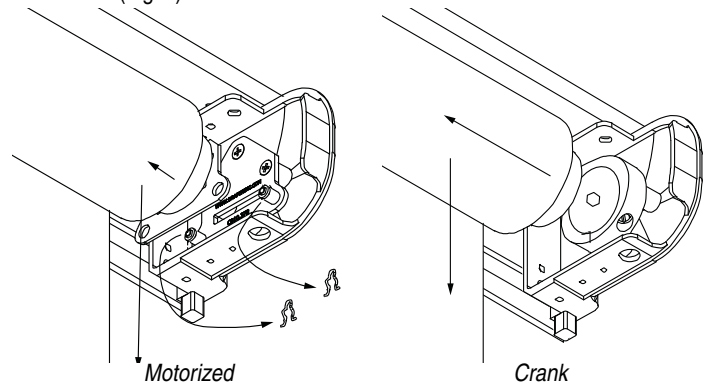

Figure 4
- ② Remove roller/fabric assembly from headbox. Pull the roller/fabric assembly away from the operator end. This will depress the spring-loaded pin on the non-operator end. Then you can rotate roller/fabric assembly out of the headbox (Fig. 4).